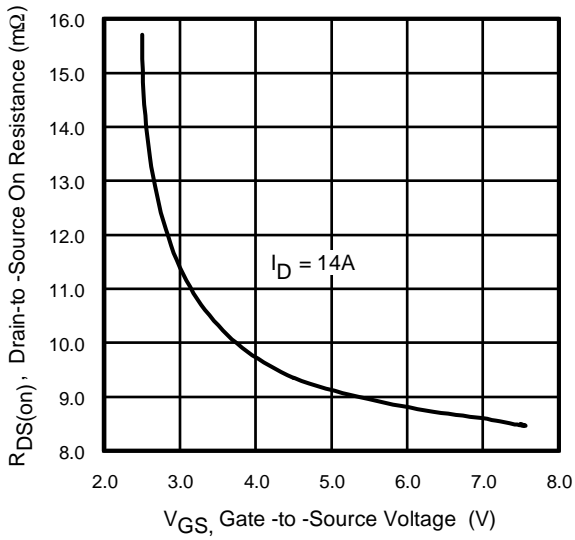
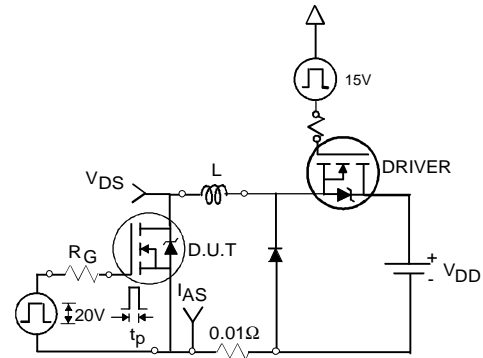

Fig 12. Typical On-Resistance Vs. Gate Voltage
Fig 16c. Unclamped Inductive Test Circuit
- ① Repetitive rating; pulse width limited by max. junction temperature.
- ② Pulse width $\leq 400\mu s$; duty cycle $\leq 2\%$.
- ③ Surface mounted on 1 in square Cu board.
- ④ Starting $T_J = 25^\circ\text{C}$, $L = 2.3mH$, $R_G = 25\Omega$, $I_{AS} = 14A$. (See Figure 12).
- ⑤ $I_{SD} \leq 14A$, $di/dt \leq 140A/\mu s$, $V_{DD} \leq V_{(BR)DSS}$, $T_J \leq 150^\circ\text{C}$.
- ⑥ Limited by T_{Jmax} , see Fig.16c, 16d, 19, 20 for typical repetitive avalanche performance.